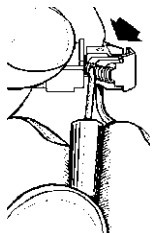

FIG. 5
5. Coupler Knuckle Springs are pre-installed. If one should come out during mounting - replace as follows: Insert Kadee® #241 Spring Pic (or small screwdriver) between end coils of spring, see Fig. 5. Place opposite spring end over cone shaped